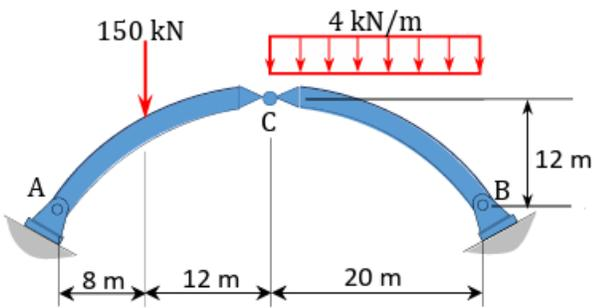

Fig.5
16. a) A parabolic arch with supports at the same level is subjected to the combined loading shown in Fig.5. Determine the support reactions and the normal thrust and radial shear at 150 kN concentrated load. 8 CO6 [K3]